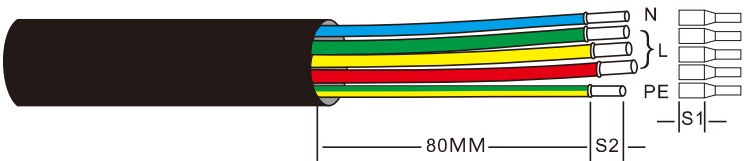

Figure 5.23 Strip AC cable
1. Strip the end of AC cable insulating jacket about 80mm then strip the end of each wire. (as shown in figure 5.23)